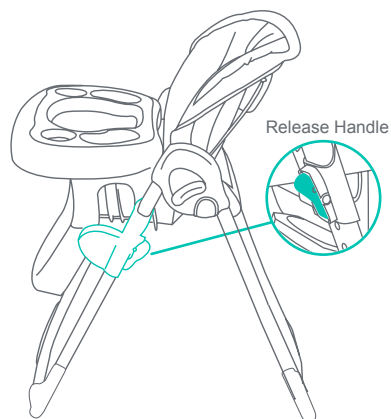
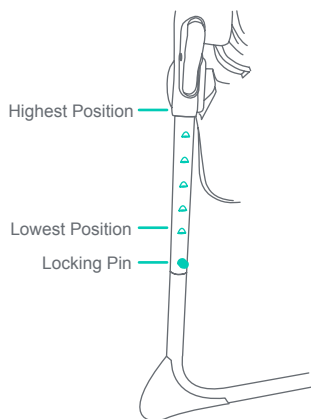

Fig. 15a
Fig. 15b
- 15) • Squeeze the Release Handles on both sides simultaneously of the Height Adjustment (Fig. 15a) and adjust to the ideal position (Fig. 15b).